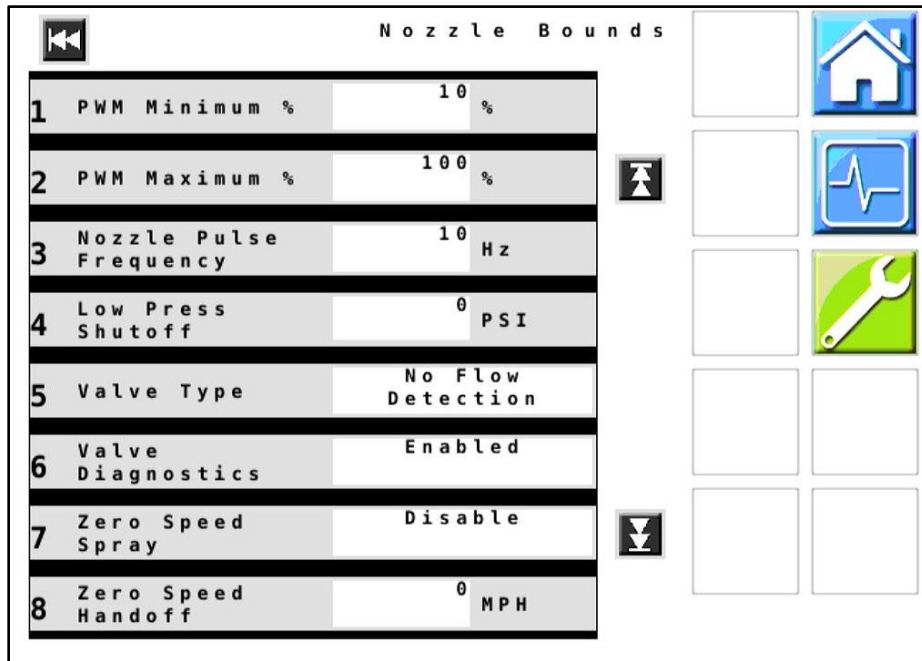

Figure 8 — Nozzle Bounds
18. **Figure 8:** The settings for Nozzle Bounds are generally left at default settings. Refer to the Operator's Manual for setting descriptions prior to making changes.